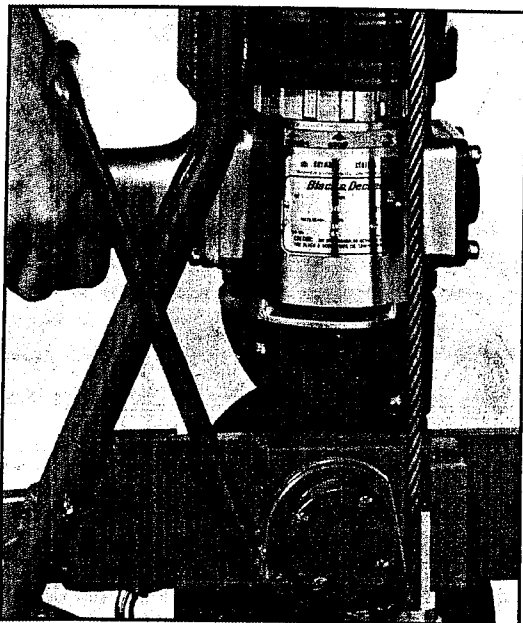

Fig. 13
- Raise manual safety brake lever and with same hand depress and hold trigger switch on motor for power. Brake lever should rest on operator's wrist while powering "UP" or "DOWN" as shown in Fig 13.